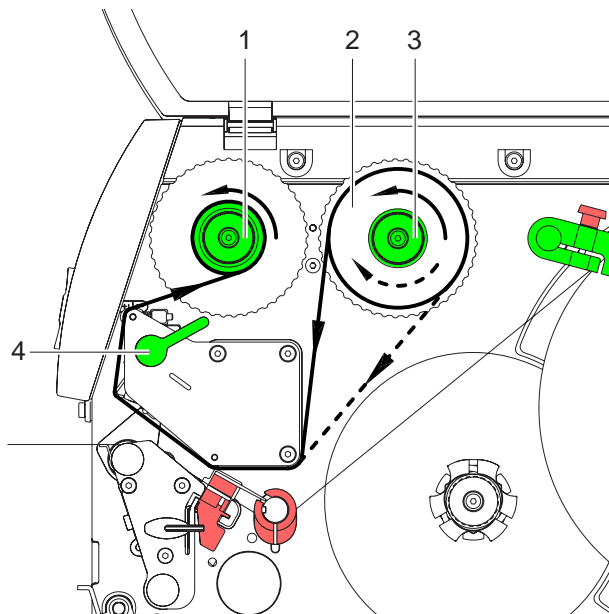

Fig. 12: Feed path of the transfer ribbon
2. Turn lever (4) counterclockwise to lift the printhead.
3. Slide transfer ribbon roll (2) onto the ribbon supply hub (3) until it stops and so that the color coating of the ribbon faces downward when being unwound. No rotation direction is specified for the ribbon supply hub (3).
4. Hold transfer ribbon roll (2) firmly and turn knob on ribbon supply hub (3) counterclockwise until the transfer ribbon roll is secured.
5. Slide suitable transfer ribbon core onto the transfer ribbon take-up hub (1) and secure it in the same way.
6. Guide transfer ribbon through the print unit as shown in Fig. 12.
7. Secure starting end of transfer ribbon to the transfer ribbon core (1) with adhesive tape. Ensure counterclockwise rotation direction of the transfer ribbon take-up hub here.
8. Turn transfer ribbon take-up hub (1) counterclockwise to smooth out the feed path of the transfer ribbon.
9. Turn lever (4) clockwise to lock the printhead.
1. Turn lever (4, Fig. 12) counterclockwise to lift the printhead.